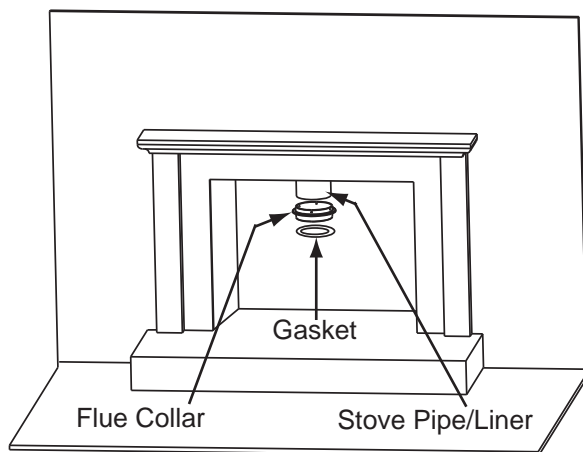

Figure 39.1
1. There are 4 pre-drilled holes in the flue collar 90 degrees apart. Attach the flue collar to the stove pipe/liner. If the seal is questionable use stove mastic **Figure 39.1**.